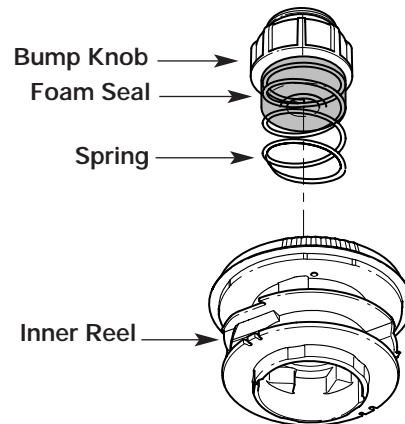

Fig. 22
1. Turn the bump knob counterclockwise and remove the bump knob, spring and foam seal (Fig. 22).
2. Pull out the bump knob, spring and foam seal (Fig. 22).
7. Place the bump knob, spring and foam seal into the inner reel (Fig. 22).